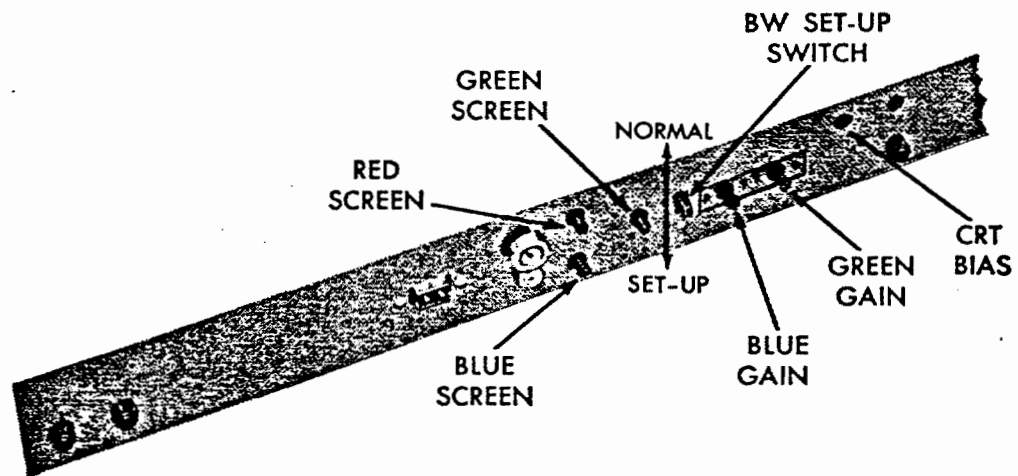

Figure 27—Rear View of Chassis, Showing Location of Black and White Tracking Adjustments.
3. Disable the blue and green picture tube guns by turning their Screen adjustments to minimum (counter-clockwise). See Figure 27.
1. Set the CRT bias and the three Screen adjustments to minimum (fully counter clockwise.) See Figure 27.